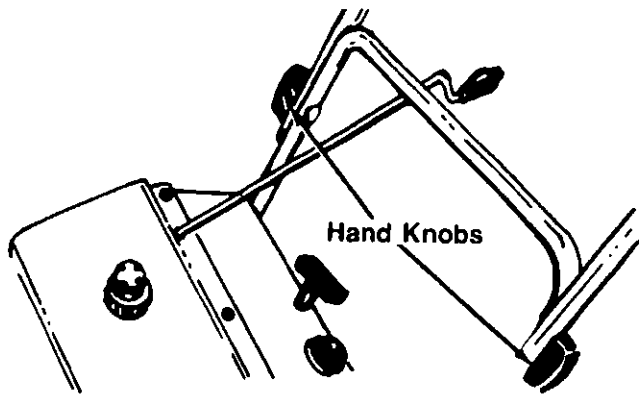

FIGURE 1.—Model 310183
2. **Model 310183:** Loosen the hand knob on each side of the handle. Pull handle up into operating position. See figure 1. Be certain not to pinch the cable. Retighten the hand knobs.